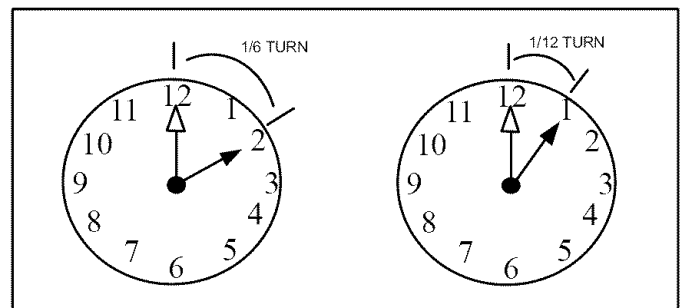

Figure 1. Cap Tightening Distances
- *Without Torque Wrench:* Finger tighten and use an appropriately sized wrench to turn an additional 1/6 turn clockwise as illustrated in figure 1.
- Without Torque Wrench: Finger tighten and use an appropriately sized wrench to turn an additional 1/12 turn clockwise as illustrated in figure 1.
- Without Torque Wrench: Finger tighten and use an appropriately sized wrench to turn an additional 1/6 turn clockwise as illustrated in figure 1.
- *Without Torque Wrench:* Finger tighten and use an appropriately sized wrench to turn an additional 1/12 turn clockwise as illustrated in figure 1.